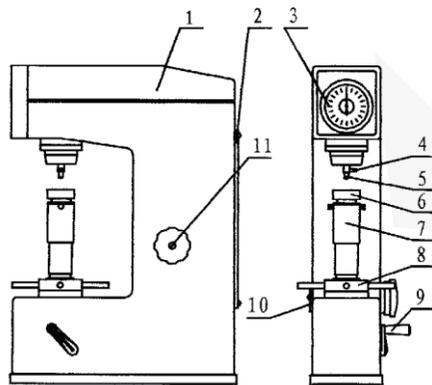
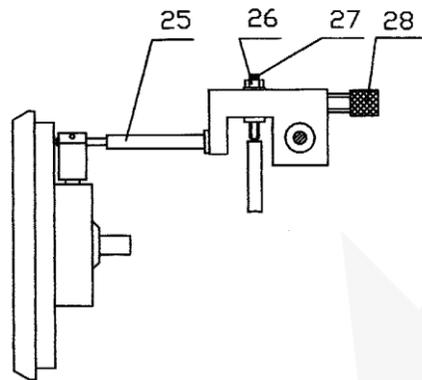

Figure 2
Figure 5
- 3 After the hardness tester is properly placed (see figure 2), remove the top cover (1). Untie the fastening white gauze tape on the extension rod (25, figure 5), then promptly replace the top cover to prevent dust from coming into the tester. Open the rear cover (2) and remove the white gauze tape on moveable parts. Wipe off the anti-rust oil on the lifting screw and apply some thin lubricating oil instead.
- 3 Adjustment of the hardness value display (figure 5). The accuracy of the tester is calibrated at factory. If any error is caused by improper handling during transportation, operator can make adequate adjustment but in prior to do that he shall thoroughly understand the structure and working principle of the tester apparatus. The procedure is as following: Remove the top cover. If displayed value is lower than the actual hardness of standard block, loosen M4 nut (26) and slightly turn in screw (28) clockwise, then tighten the nut and make the test again until the displayed value falls in the specified tolerance. If displayed value is higher, turn the screw counterclockwise.